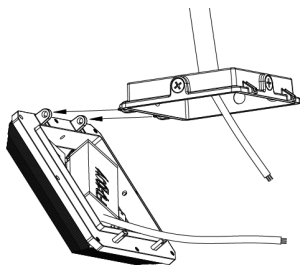

Figure 1-4
4. Insert the mounting hole of hinge horizontally on the shaft of the light source. Figure 1-4